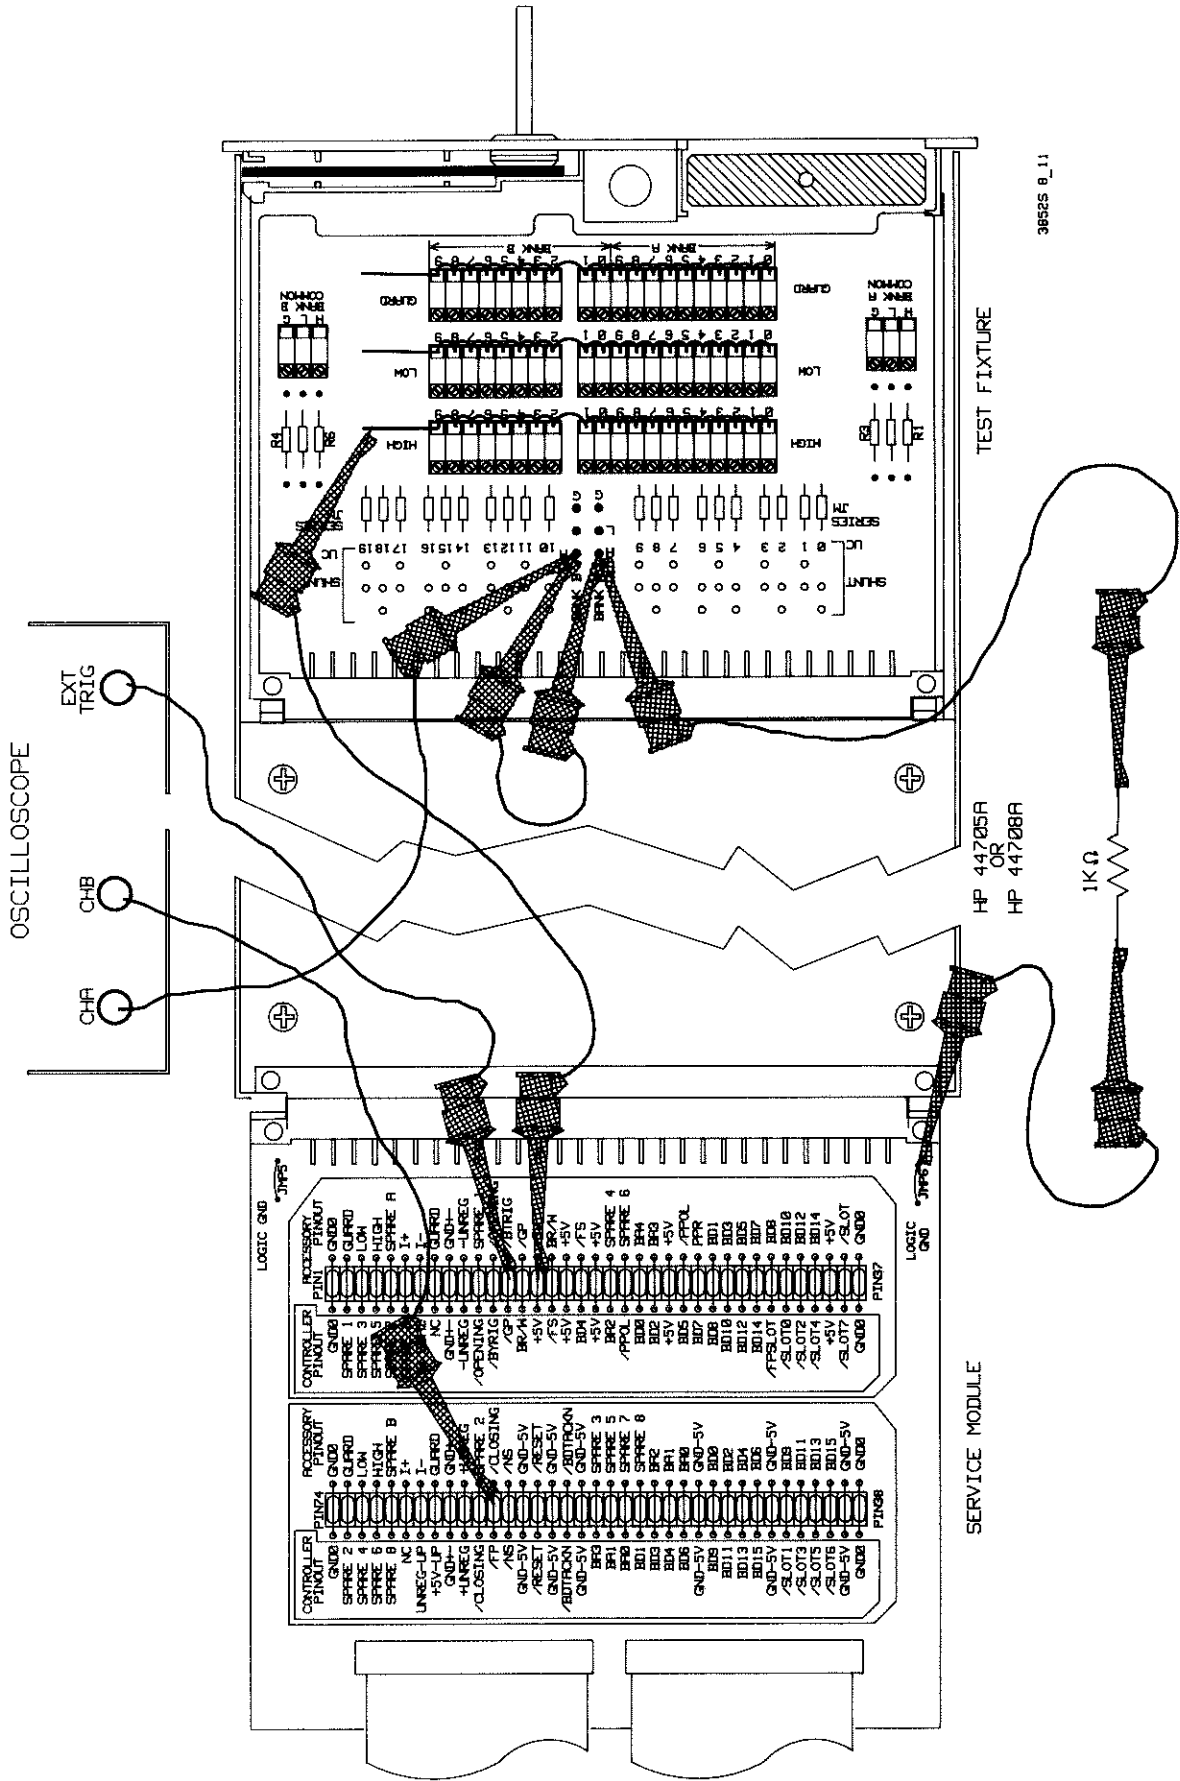

Figure 8-12 HP 44705A/H Closing Time Set-Up
2. Move the Channel B oscilloscope probe to the CLOSING connection on the service module (as shown in Figure 8-12).